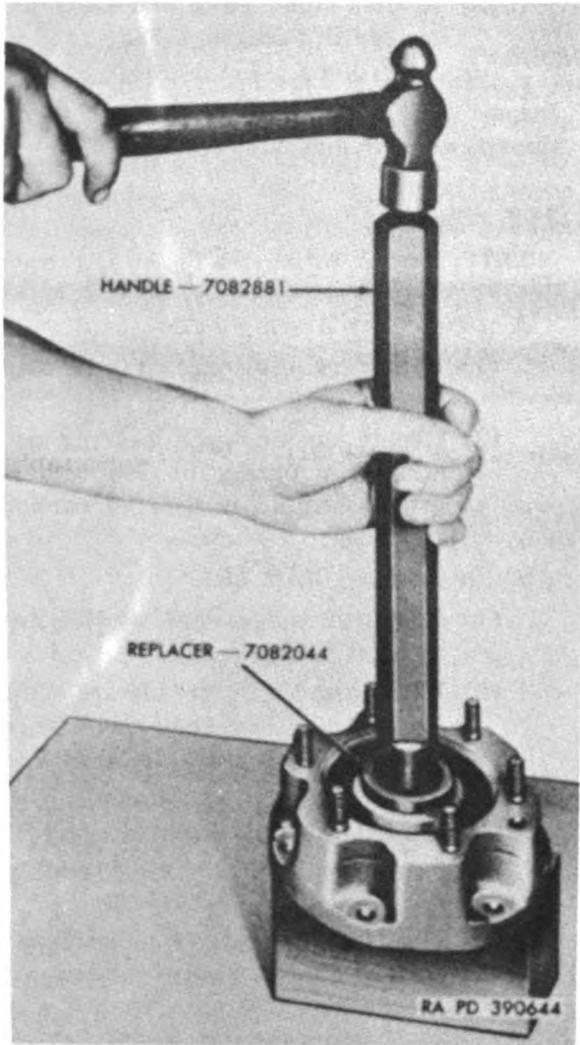

Figure 140. Installing generator drive adapter oil seal.
a. If oil seal (A) was removed from adapter, drive new oil seal into adapter with replacer 7082044 and handle 7082881 (fig. 140).
b. Coat threads on  $\frac{1}{8}$ -inch hex-socket pipe plug (B) with gasket forming compound and install pipe plug in opening in adapter.
c. Install driven shaft gear assembly (K) in bore of adapter. Install gear assembly carefully so as not to damage oil seal.
f. Coat threads on  $\frac{1}{8}$ -inch hex-socket pipe plug (E) with gasket forming compound and install pipe plug in drive gear shaft (F). Slide drive gear assembly (D) on shaft.
g. Install drive gear shaft, with attached drive gear assembly, in bracket, meshing teeth on drive gear assembly with teeth of driven shaft gear assembly, and secure with  $\frac{1}{2}$ -inch castellated hex nut (H) and  $\frac{1}{2}$  id, 1.0 od,  $\frac{1}{8}$  thick flat washer (G). Secure nut with  $\frac{3}{32}$  x  $\frac{3}{4}$  cotter pin (J).